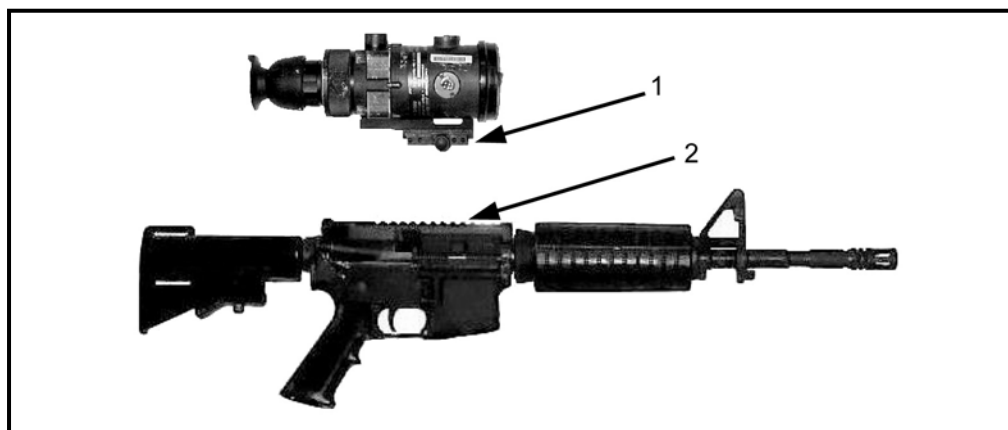

Figure 2-39. AN/PVS-4 on the M4/M4-MWS-series weapon.
b. **M4/M4-MWS-Series Weapons** (Figure 2-39). The Picatinny rail grabber with a mounting adapter (1) on the bottom of the AN/PVS-4 is aligned with a notch on the integrated rail (2) of the M4/M4-MWS-series weapons ensuring the AN/PVS-4 is positioned to accommodate an effective firing position once the eyecup is depressed. The AN/PVS-4 will not retain zero if the rail grabber extends beyond the end of the integrated rail when mounted. Tighten the torque-limiting knob clockwise until it clicks twice. Retightening of the rail grabber is recommended after a few rounds have been fired to ensure the sight is